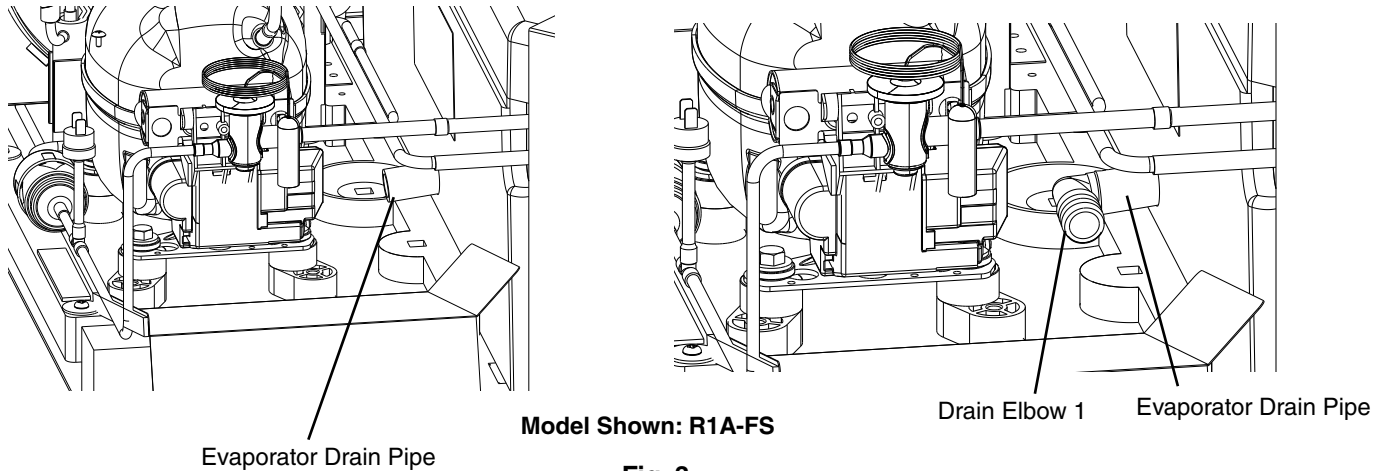

Fig. 3
- 5) Connect one end of a drain elbow provided in this kit, to the evaporator drain pipe. See Fig. 3. **NOTICE! Be sure drain elbow 1 is properly positioned on the evaporator drain pipe.**